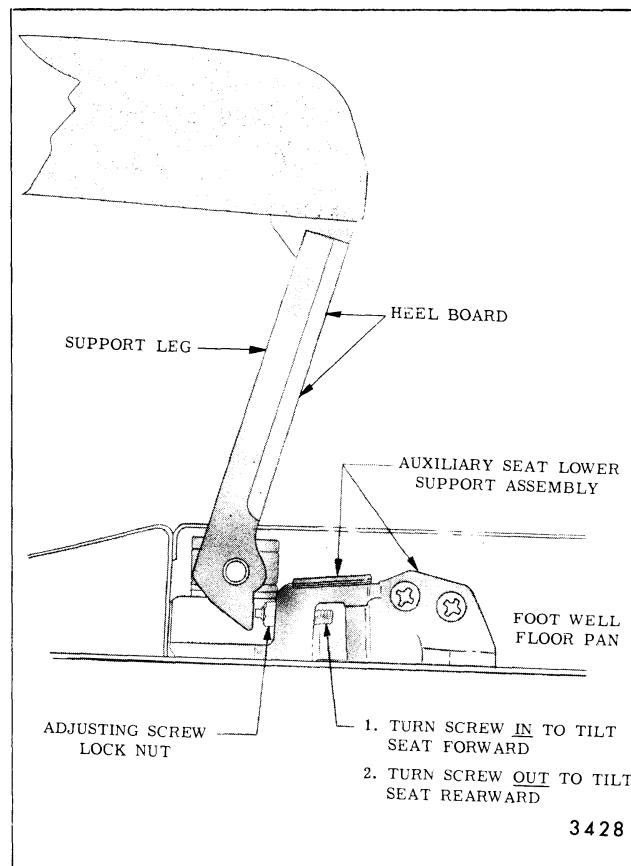

Fig. 9-59-Auxiliary Seat Adjustment - Cadillac Limousine Styles
2. On the front side of the auxiliary seat heel board, turn back foot well carpet flap to expose the auxiliary seat lower outboard and inboard support assemblies (Fig. 9-59).
both inboard and outboard support (see Fig. 9-59).
4. Carefully turn the adjusting screw (see Fig. 9-59) at both supports the SAME AMOUNT to allow the seat to pivot rearward further; thereby, providing additional leg room for the auxiliary seat passenger. Tighten the adjusting screw lock nut at both supports.